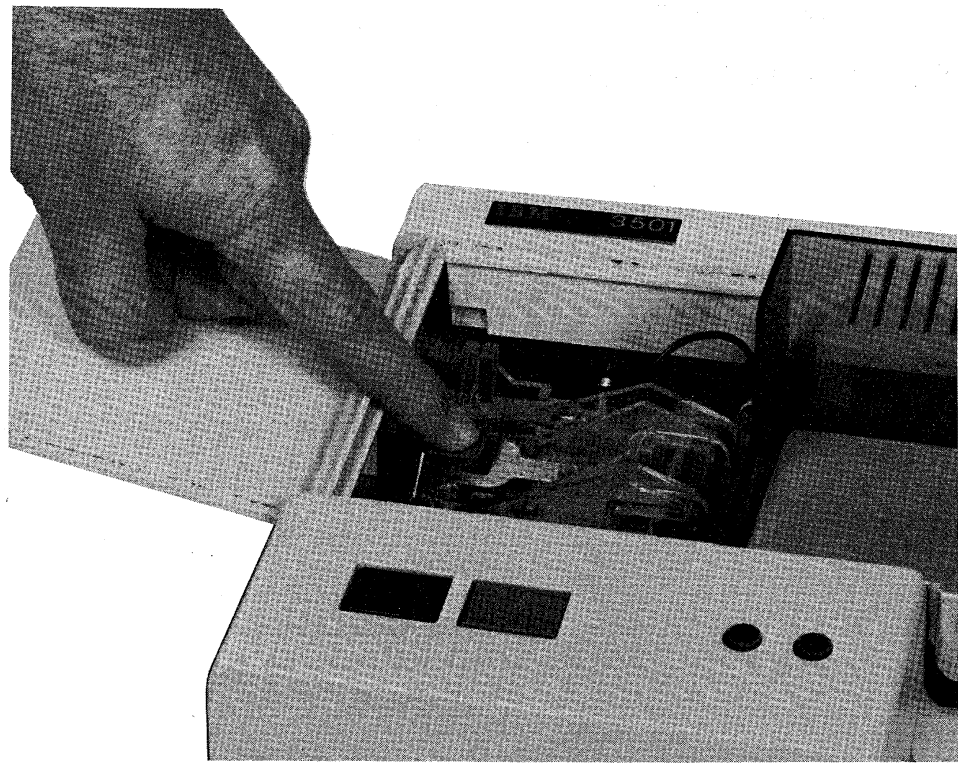

Figure 8-3. Closing the Read Head Cover
- 5** Close the read head card cover by pressing firmly on the cover as shown in Figure 8-3. Check to be sure that both lock post latches lock in place.